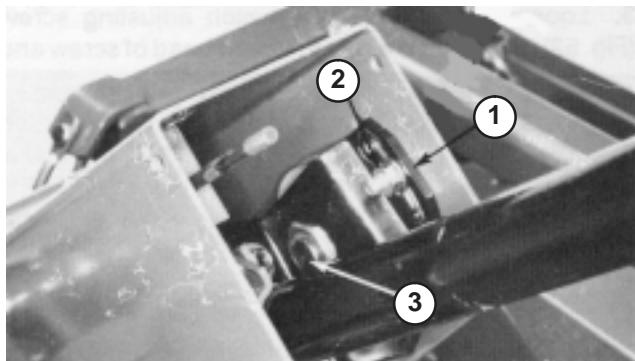

Figure 62
1. Remove knob from parking brake and self tapping screws from steering column cover. Slide cover up steering shaft to expose pivot bracket (Fig. 62).
2. Loosen small nut, rotate pivot bracket until it tightens large nut below (Fig. 62). Retighten small nut.